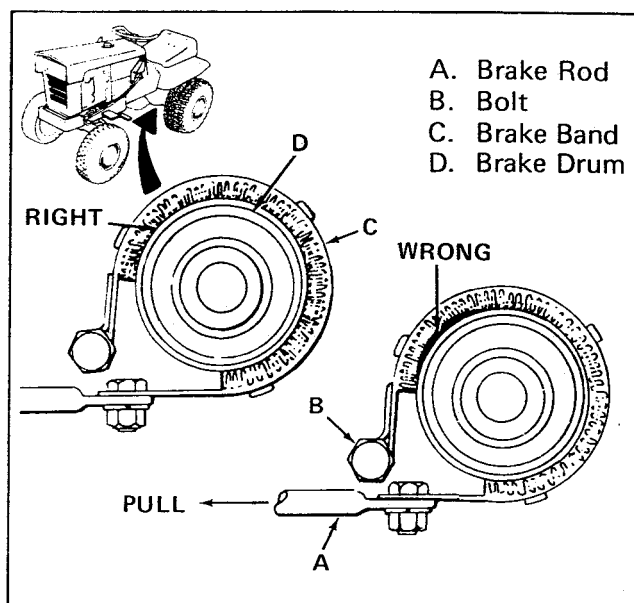

Figure 13. Brake Band Adjustment
1. Loosen bolt (item B, figure 13).